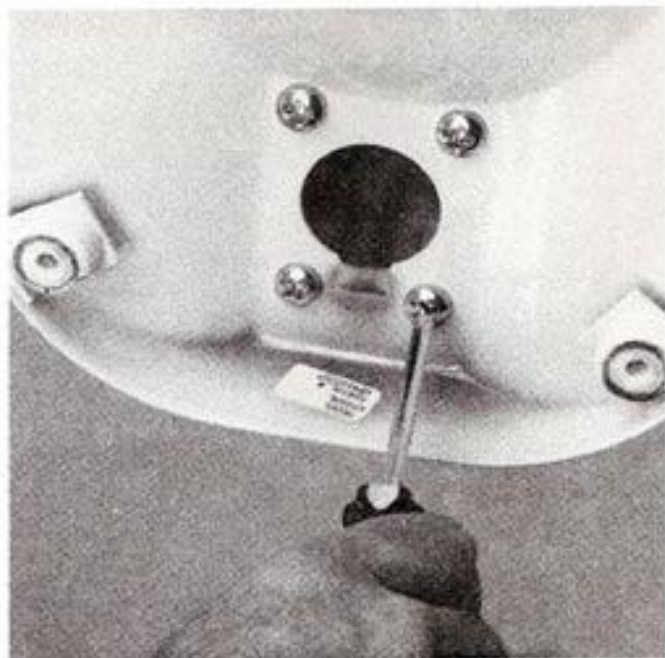

Fig. 88
- D. With the bowl lift assembly on the bench, lay it on its back and remove the four $\frac{5}{16}$ "-18 x $\frac{3}{4}$ " round head screws (Fig. 88) and lift the column off the base.